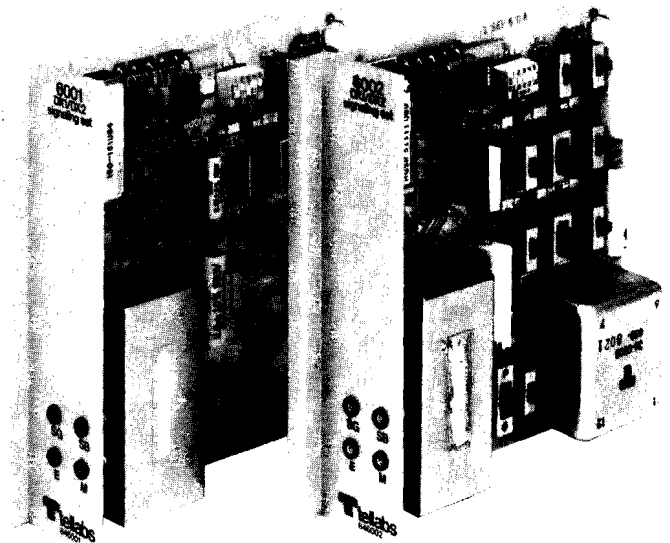

figure 1. 6001 and 6002 DX1/DX2 Signaling Modules
1.01 The Tellabs 6001 and 6002 DX Signaling modules (figure 1) provide extended-range E & M duplex (DX) signaling over 2wire or 4wire metallic transmission facilities. Both modules may be switch-optional for either DX1 or DX2 operation. In the DX1 mode, either Type I or Type II E & M-lead interfaces may be accommodated. The two modules differ in that the 6002 provides an integral repeat coil while the 6001 does not.